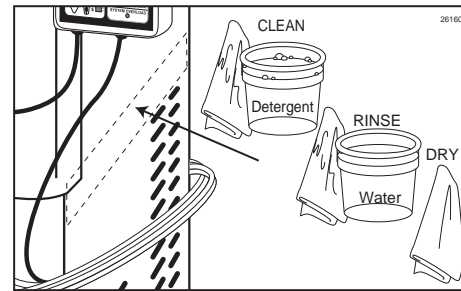

Figure 142
3. Thoroughly clean, rinse and dry the area where the Casing will be mounted using detergent water, clean water, and single service towels. (See Figure 142.)